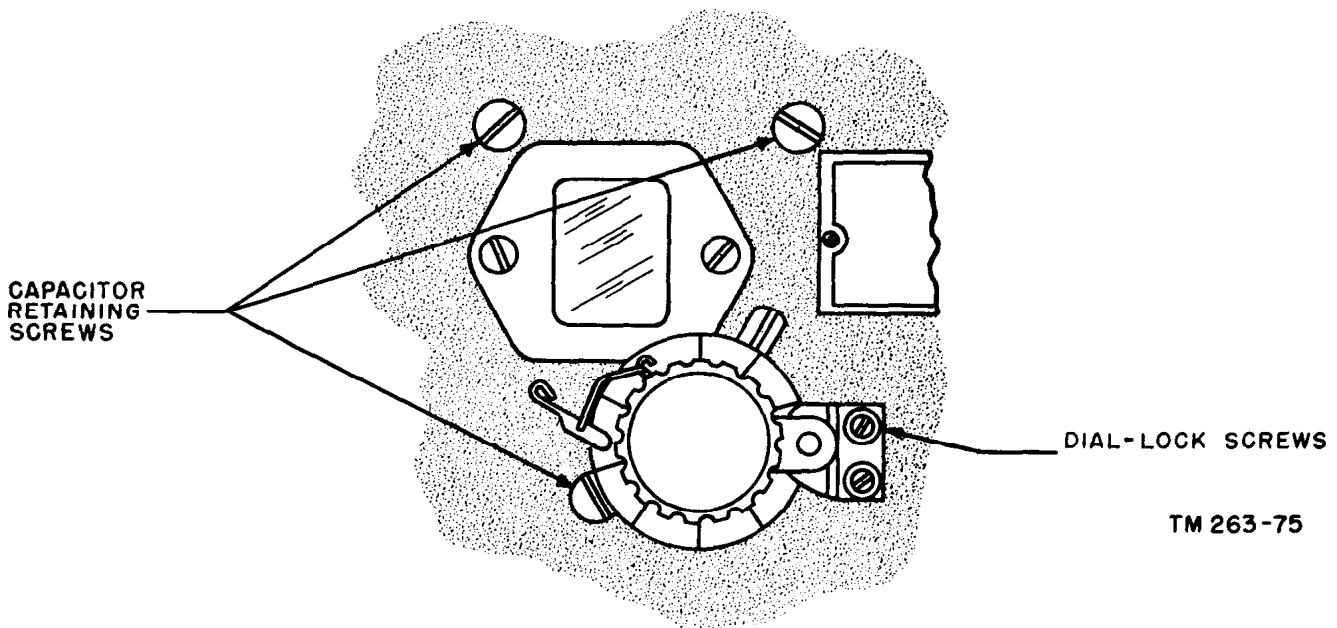

Figure 117. Transmitter capacitor and dial retaining screws.
*a.* Mesh C101 (0 setting on dial). Remove the dial-lock screws and dial knob (fig. 117) from the main tuning capacitor shaft on the front panel of the transmitter. On some transmitter models, the dial knob is held to the shaft by a small setscrew which can be loosened with the larger Bristo wrench No. 6 contained in Box BX-53.
*e.* Following this step, remove the three capacitor retaining screws on the front panel of the transmitter seen in figure 117.